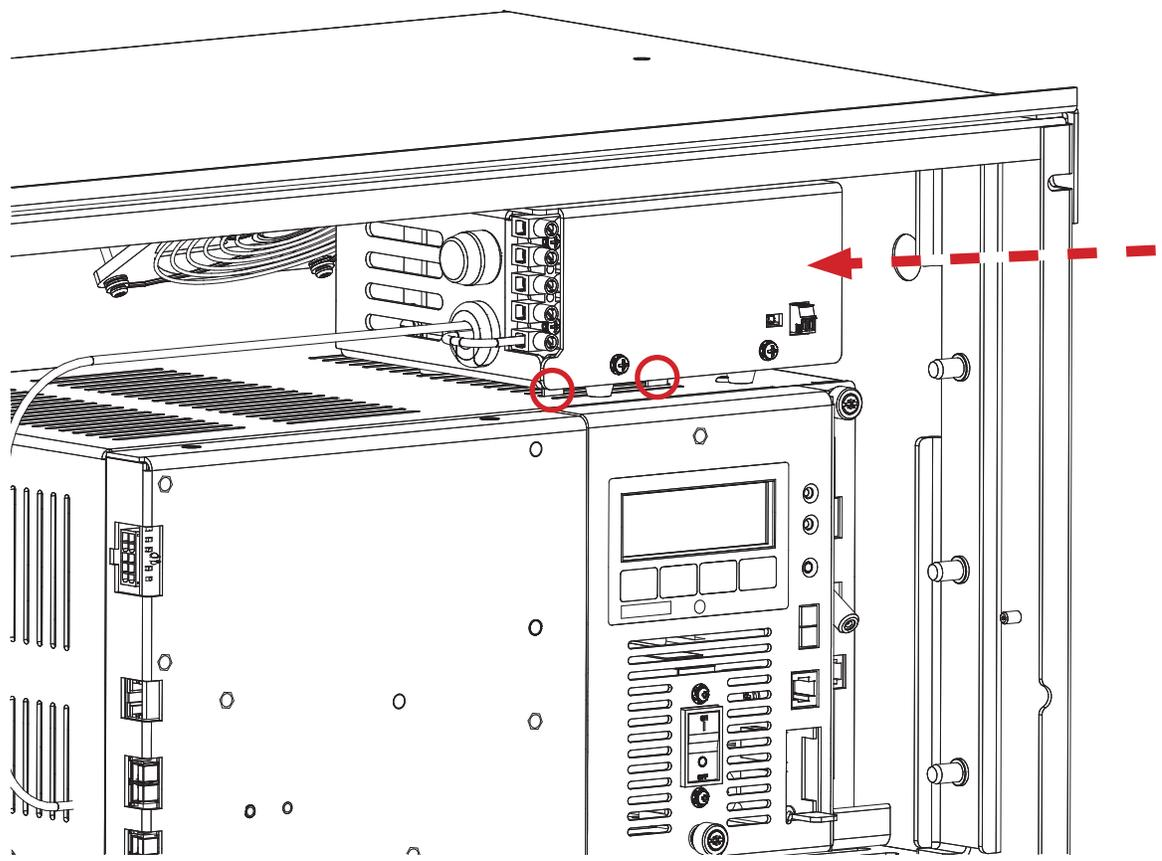
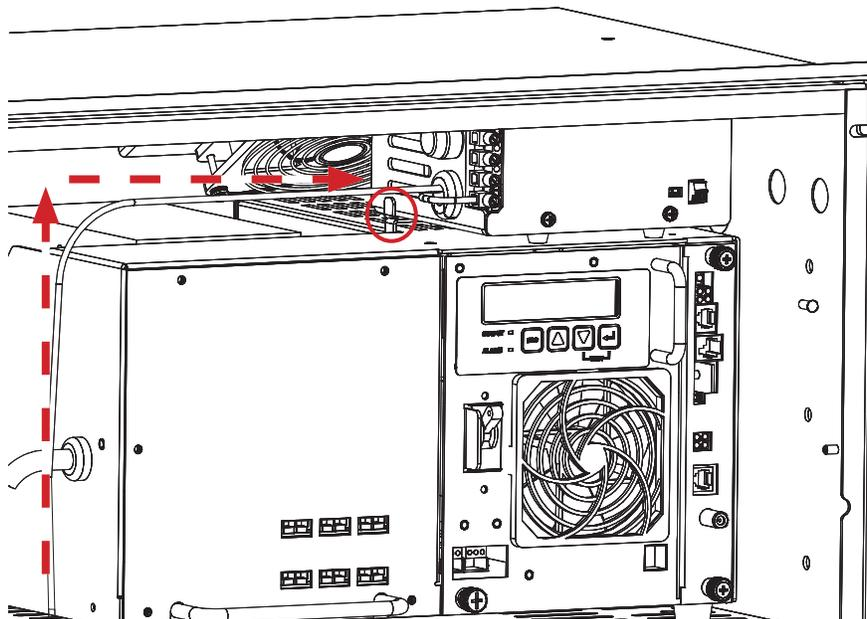

Fig. 5, XMP-8D Alternate Installation Location XM3
Fig. 7, XMP-8D Alternate Installation Location XM2 - Mounting Clip
2. With the front door of the PWE open, install the XMP-8D on top of the power supply. For an XM3, install the transformer above the inverter module, allowing the mounting clips to slot into the vents on the top of the power supply (Fig. 5). In cases where the PWE contains an XM2, there will be less clearance above the power supply. Where possible, remove the PWE roof to install the transformer on the XM2. If the roof of the PWE cannot be removed, begin with the transformer positioned to the left of the power supply. With the XMP-8D inside the PWE, slowly lift it up the left side of the XM2, then over to the right until it is directly above the inverter module. Set the XMP-8D down on top of the XM2 so that the downward facing mounting clips align with the left and right sides of the inverter module (Fig. 7).